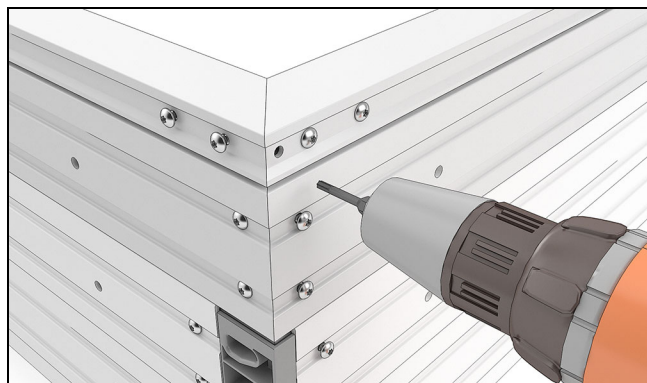

Figure 48
6. Assemble the other jamb to the head jamb assembly. See Figure 48.